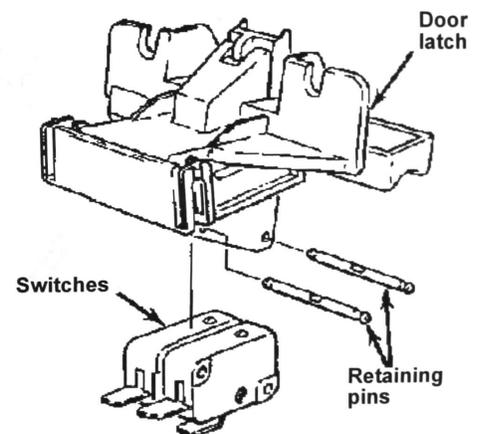

Figure 10
- Remove the two (2) retaining pins securing the door switches to the latch assembly, as shown in Figure 10. Discard old switches and old terminals.